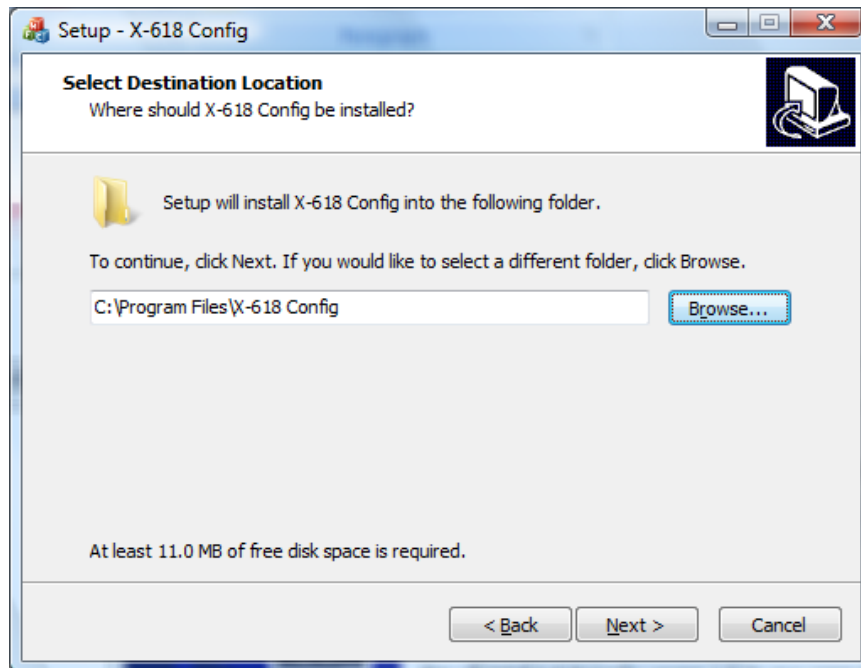

Figure 2 Select Destination Location
5. Click **Next**. The page shown in Figure 2 is displayed.